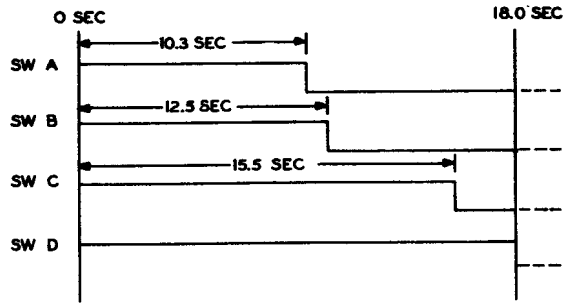

Fig. 3 — A. W. Haydon Timer, P-6421A-1 — Timing Chart
- Time relay to be as per timing chart in Fig. 3 when operated on 40 to 56 volts dc.